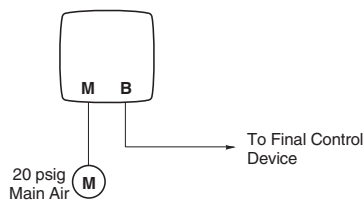

Figure-1 Piping Diagram.
3. Pull tubing through center hole in mounting plate and screw mounting plate to wall with flat head screws. Cut tubing and insert two couplers. The Main and Branch tubing is connected into the corresponding ports on the thermostat (Figure-1).